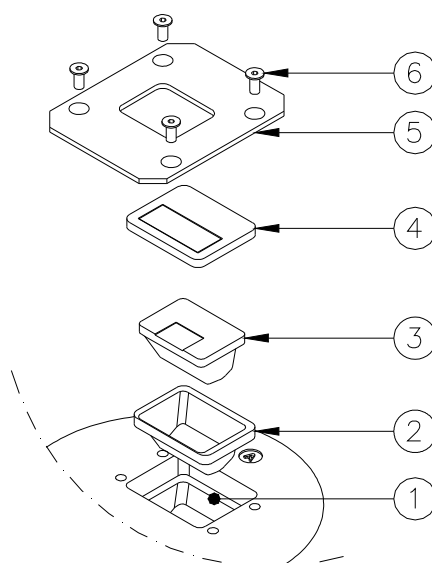

Figure 27 - Prism Replacement
- remove the mounting plate and filter holder (Figure 27 – n°4-5)
- remove the old prism and the gasket (Figure 27 – n°3-2)
- place a new gasket (Figure 27 – n°2) in the prism cavity on the dome (Figure 27 – n°1)
- position and press by hand the prism (Figure 27 – n°3) in the relevant seat
- position the filter holder and the mounting plate (Figure 27 – n°4-5) and fasten it with the relevant screws TORX M5x12 (Figure 27 – n°6), tightening torque is 2.5 Nm